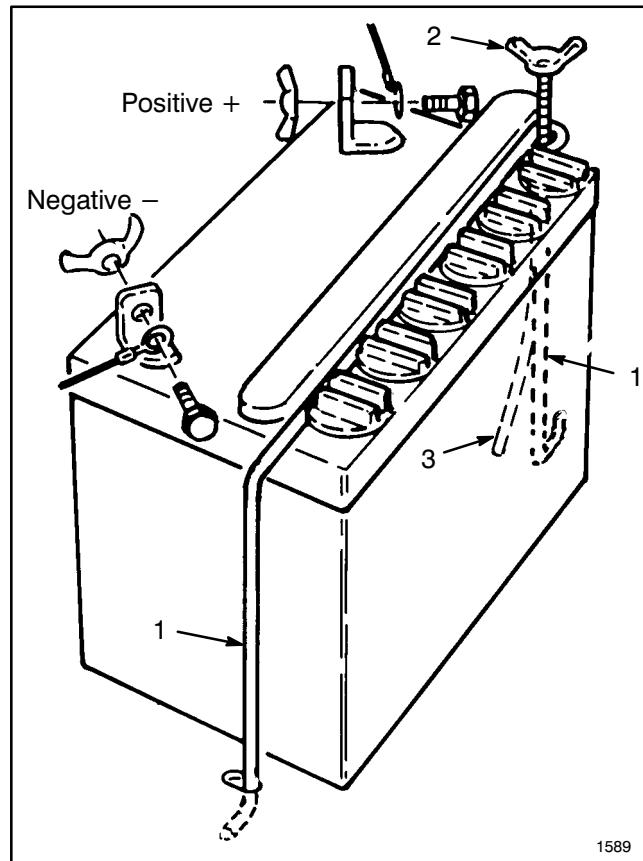

Figure 3
1. Remove wing nut securing battery hold downs to rider chassis (Fig. 3).
7. Reinstall the battery with terminal posts toward the rear of the machine and vent tube thru hole in frame (Fig. 3).
9. Reinstall the positive cable to the positive (+) terminal and the negative cable (black) to the negative (-) terminal of the battery and secure with cap-screws and wing nuts (Fig. 3).